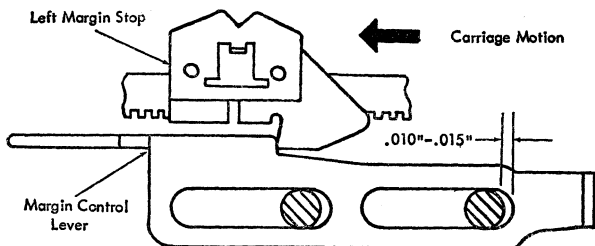

Figure 31. Overbank Adjustment
14. OVERBANK. Move the carriage from left to right and observe that the escapement pawl drops over an escapement-rack tooth when the margin-control lever is from $.010''$ to $.015''$ from its full right position (Figure 31).